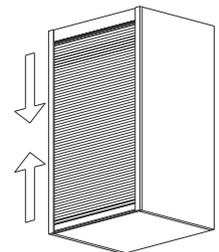

Fig. 10
7. Slide the rolling shutter to ensure smooth working, Fig.10.